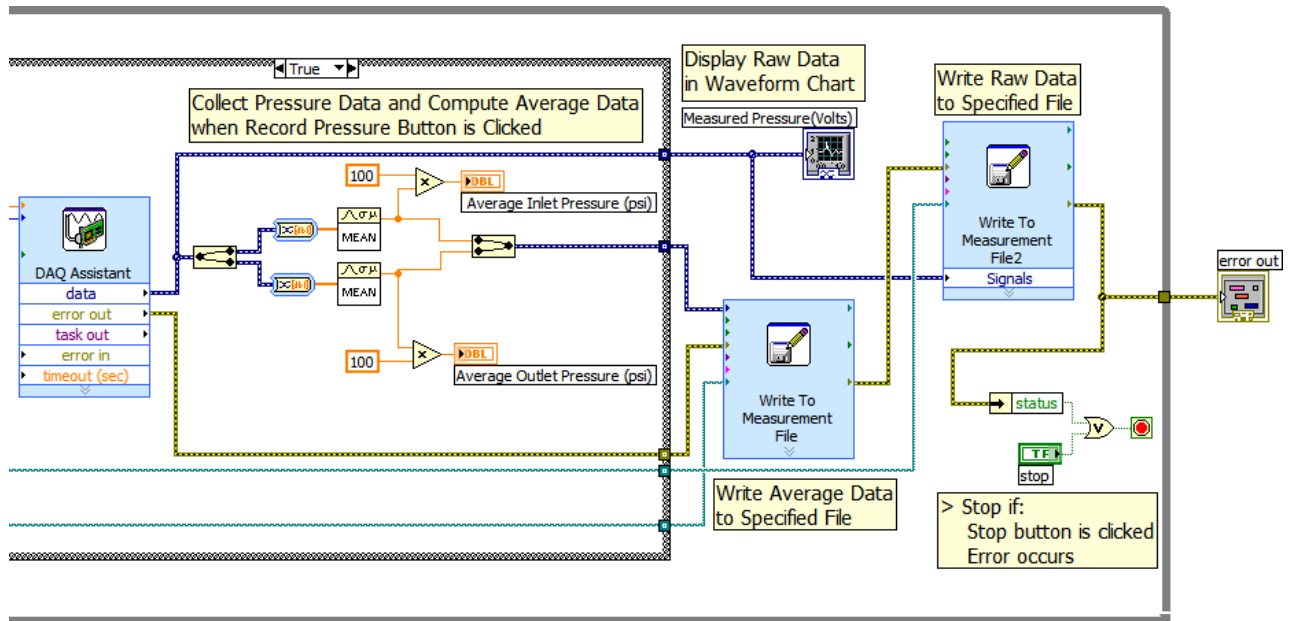

Figure 4. Display and Record Data
- Data is *read, averaged, displayed, and written to files* until the **STOP** button is clicked or until an error occurs in the read process. See Fig 4.